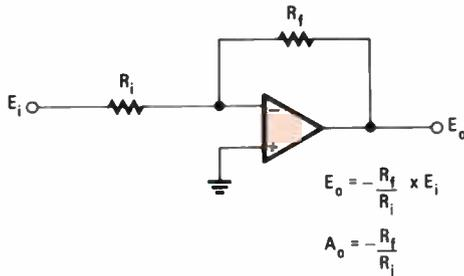

Fig. 2—An op-amp inverter circuit with finite voltage gain.
The most common way of providing negative feedback in an op-amp circuit is to connect a resistor (R_f) from the output back to the inverting input, as shown in Fig. 2. An input resistor, R_i , accepts the input. The + input is grounded. The resulting amplifier is an inverter whose gain is a function of the feedback and input resistors. In fact, the gain (A) of the
The gain of the circuit in Fig. 2 is _____.